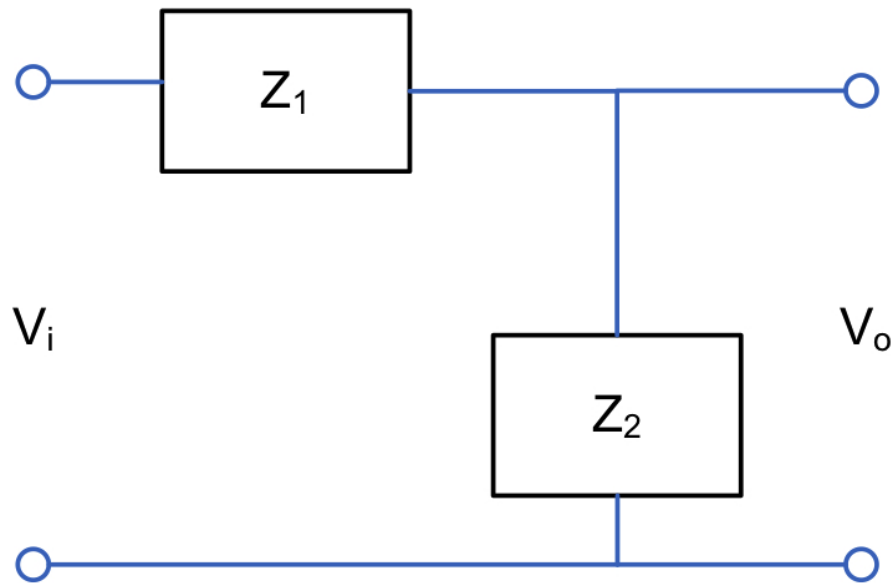

Figure 1.2: Generic Voltage Divider Circuit. V_i is the input voltage and V_o is the output voltage
- Use the color-coded resistors given to you to build a voltage divider circuit (as shown in Figure 1.2), which reduces by half the amplitude of the voltage waveform generated by the microcontroller. For obtaining the resistance in ohms from the color-code, you may refer to:
- Insert the given combination of resistor (Z_1) and capacitor (Z_2) as shown in Figure 1.2.